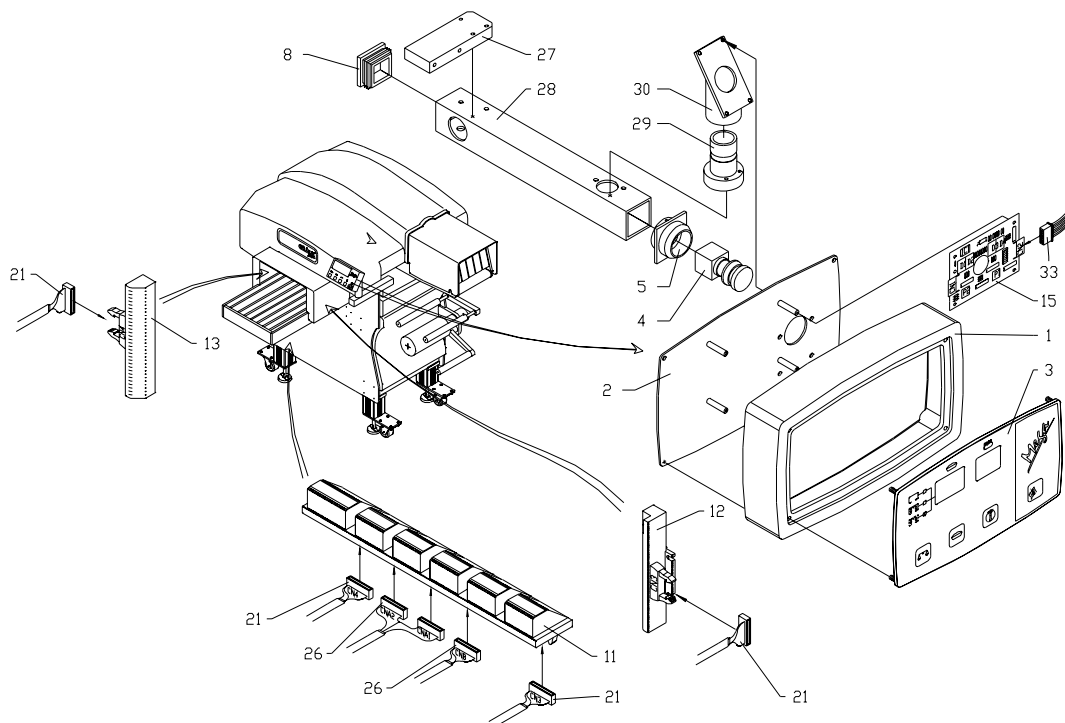

Figure 8-5
5. Unplug the three middle connectors (item 26 in Figure 8-5) from the horizontal photoeyes, noting the location of each connector.
3. Loosen the two mounting screws and slide the vertical Photoeye assembly (item 12 or 13 in Figure 8-5) away from the mounting frame.
4. Disconnect the harness (item 21 in Figure 8-5) from the back of the assembly.
5. Tilt the photoeye assembly (item 11 in Figure 8-5) so the belts are not stretched across the connectors.